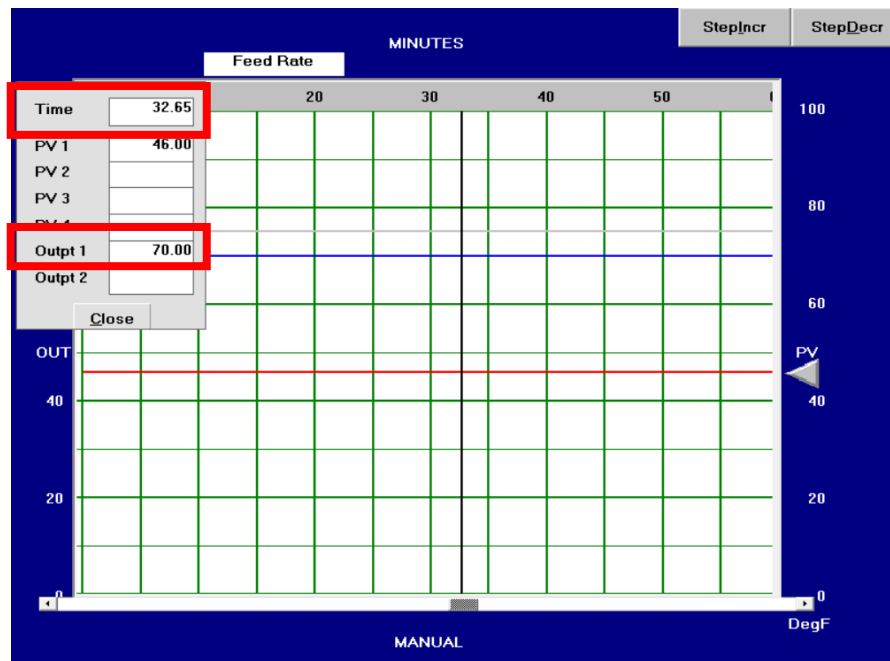

Figure 20: Initial values of PV and out of generic3 Process
- = 46 DegF, $= \frac{46}{100} * 100 = 46\%$ (as shown in fig.20)
- = 70 DegF, $= \frac{70}{100} * 100 = 70\%$ (as shown in fig.20)